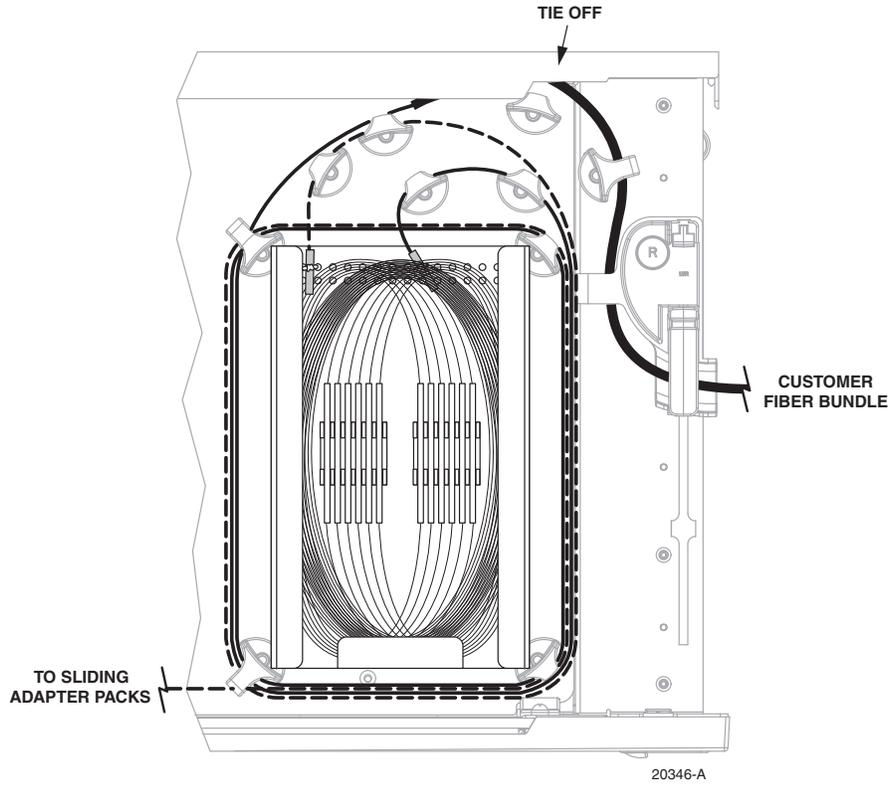

Figure 18. Cable Routing for 12 Termination and Splice Tray, Step 4
4. Carefully position the tray within the splice area as shown in Figure 18. Make certain that the pre-terminated and customer fiber bundles are properly routed around the appropriate radius limiters as they enter the FMT (see Figure 18).